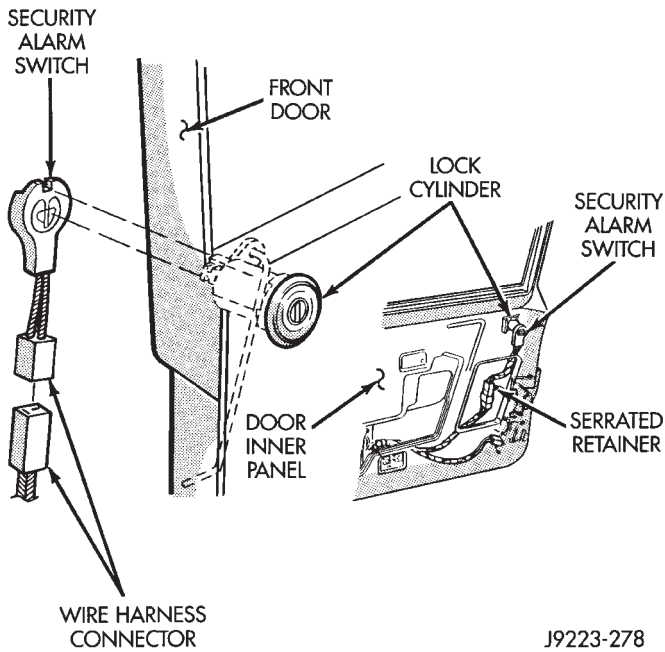

Fig. 69 Security Alarm Switch
(3) If equipped, disconnect the security alarm switch connector from the lock cylinder (Fig. 69).